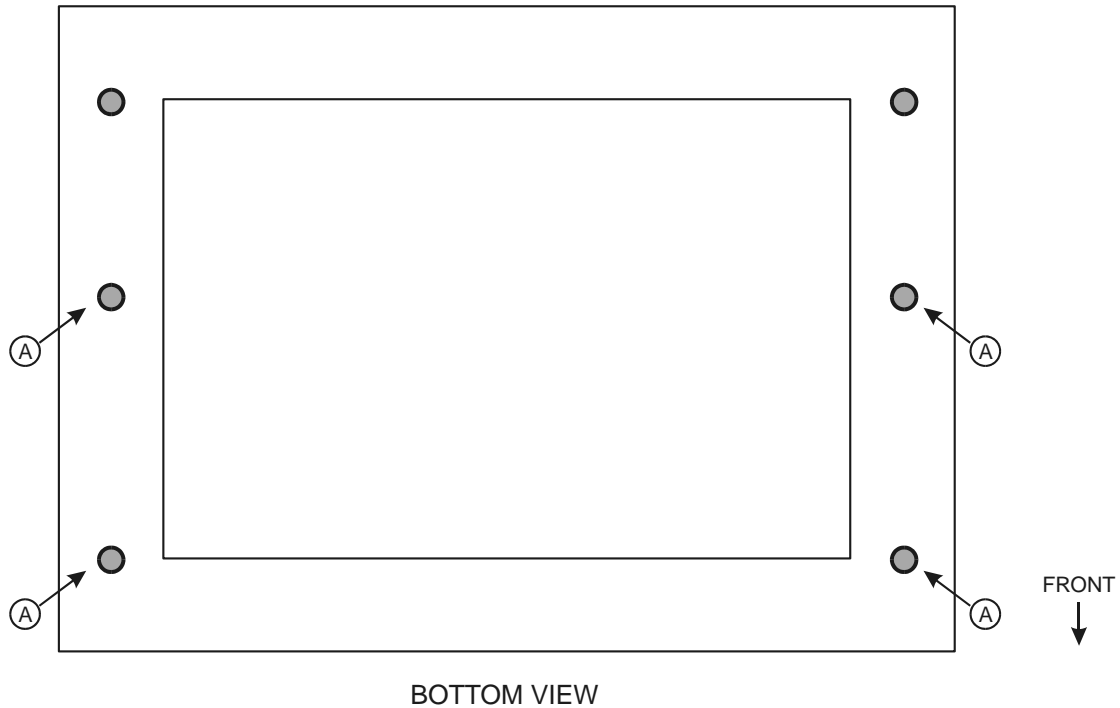

Figure 5-2 Top Cover Removal
2. Remove the four screws (A) from the bottom of the base unit. (See figure 5-2.)
5. Attach the four screws (A) through the bottom of the base unit. (See figure 5-2.)